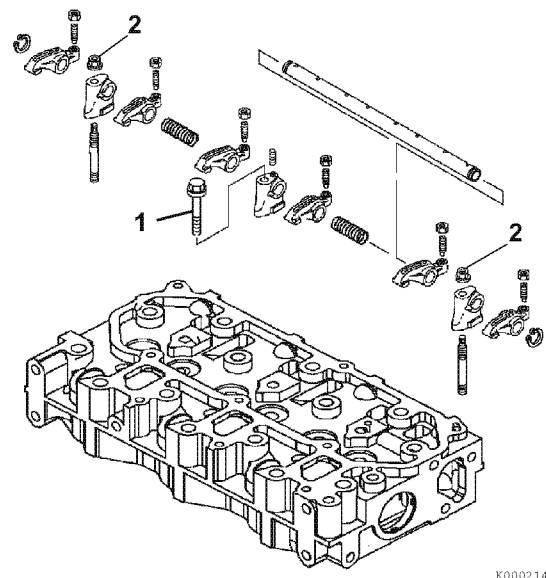

Figure 6-4
1. Remove the bolts (1, **Figure 6-4**) and nuts (2, **Figure 6-4**) that retain the rocker arm shaft supports.